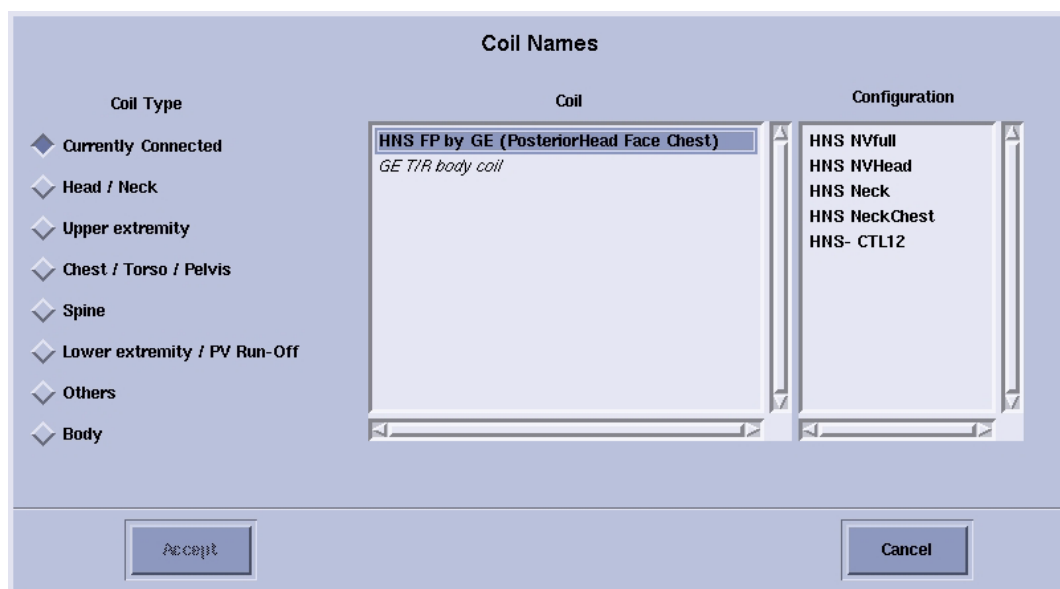

Figure 41: “Currently Connected” Coils Window In The Scan Screen
- Verify that the system has correctly detected the coil by checking in the “Currently Connected” in the GUI to select coils in Rx as shown in Figure 41.